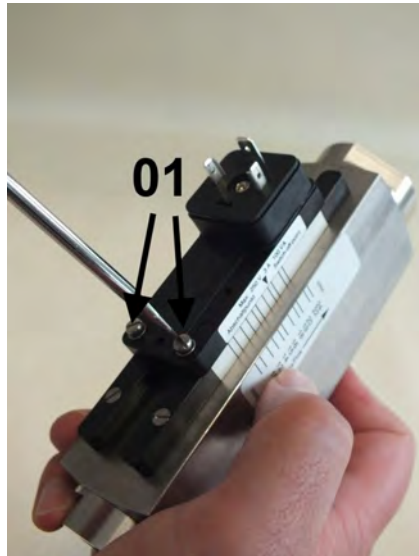

Fig. 63: Loosen set screws
3. Using a flat-bladed screwdriver (Fig. 63/01) loosen the set screws of the switch contact until it can move freely.
11. ➤ Tighten the set screws (Fig. 63/01) observing the proper tightening torque of the screws ( *Chapter 11.1 "Tightening torque" on page 82*).